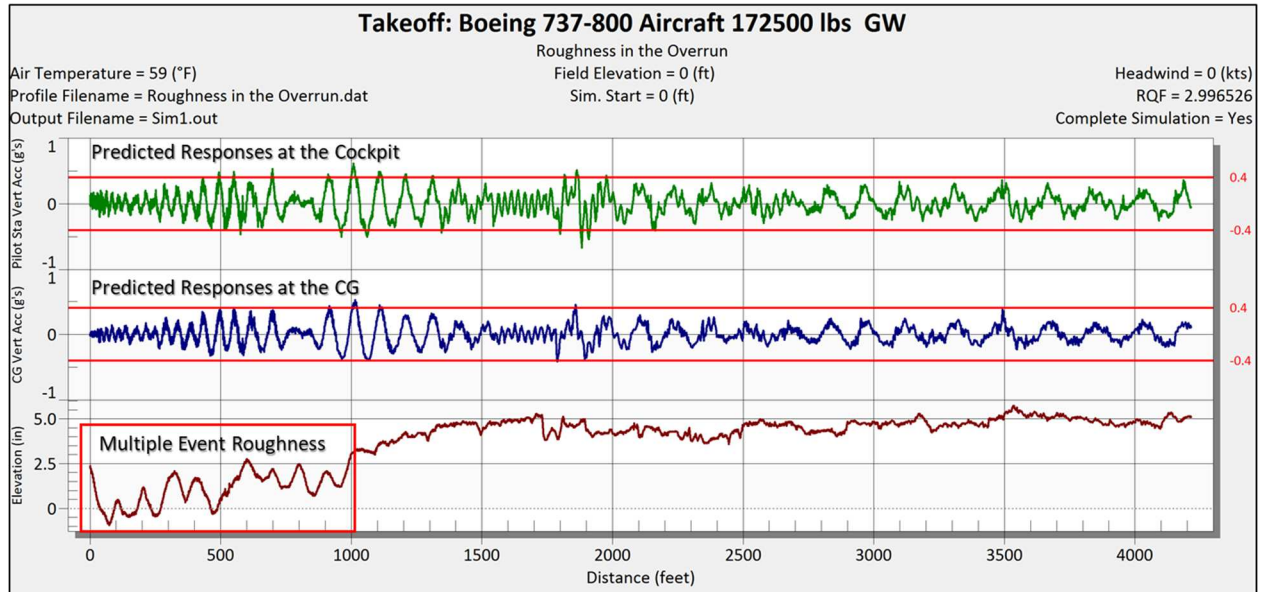

Figure 1. Takeoff simulation of a 737-800 on a runway with multiple event roughness.
To help illustrate this point consider the plot shown in Figure 1. This is a typical aircraft simulation plot predicting the accelerations of a Boeing 737-800 performing a takeoff. The upper trace plots the predicted responses (in accelerations) at the pilot's station. The center trace is the predicted accelerations at the aircraft's center of gravity, and the trace along the bottom is the plotted pavement profile. The upper and middle traces are banded by red lines. These red lines denote .40g in vertical acceleration. While there is currently no threshold declaring what is too rough for airfield pavements, .40g seems to be a good unofficial threshold and is backed up with two studies. Boeing conducted a study and found that .40g is the point where fatigue damage begins to occur on aircraft structure such as landing gear components¹. Another study found that .40g is the point where humans begin to feel discomfort².
Looking at the pavement profile in Figure 1 you can see an area of multiple event roughness that consists of short wavelength, small amplitude undulations (red box). The predicted response at the cockpit and center of gravity (CG) slightly exceed the .40g bands indicating that it is mildly rough, but overall not too bad.